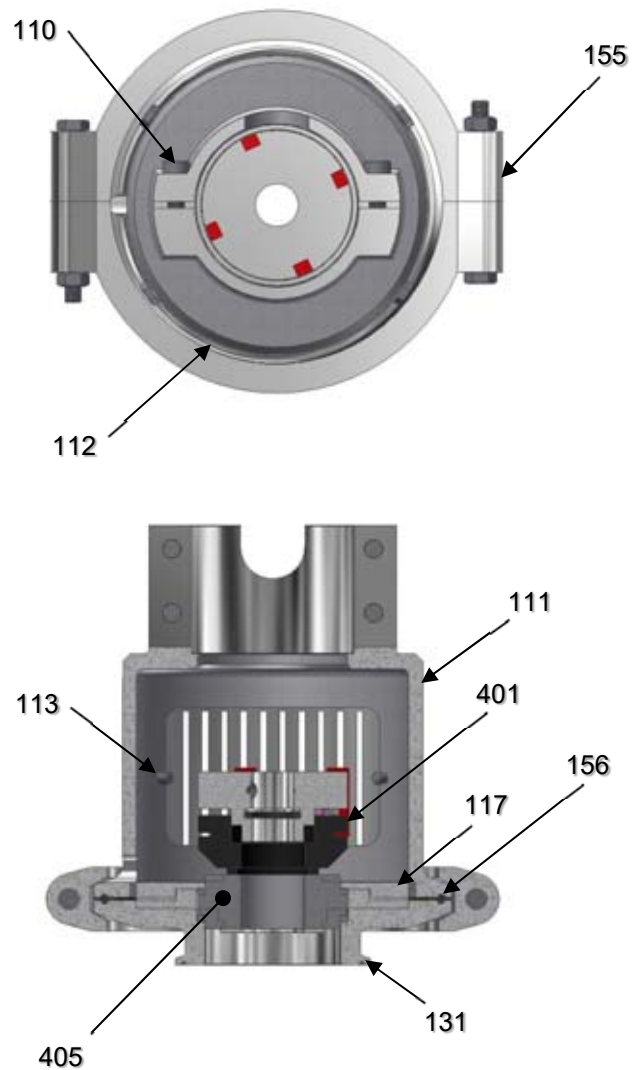

FIGURE 8A
"S" Units – Closed Tank, Sanitary Flange Mounted Mechanical Seal Module - The mixer housing module mounts in the bore of the Pedestal (111) and is secured by tightening the four socket head cap screws (110). Tighten to 75 in. lbs. (8.5 N-m) maximum torque. Do not over tighten. Damage to equipment may result. The sanitary pedestal (111) is secured to the sanitary bottom flange (131) with a bolted sanitary clamp (155). There is a stationary retainer (117) and sanitary gasket (156), between the sanitary pedestal (111) and sanitary bottom flange (131). These components together, secure the stationary sealing face (405) in the assembly once the bolted sanitary clamp (155) is installed. The sanitary bottom flange (131) connects to the sanitary nozzle on a customer tank using a customer supplied gasket and sanitary clamp. Tank contents are sealed off by the **LIGHTNIN** Mechanical Seal (401). Access to the **LIGHTNIN** Mechanical Seal (401) is achieved by loosening the eight captive hex head cap screws (113) then removing the two safety covers (112). Refer to Figure 8A.